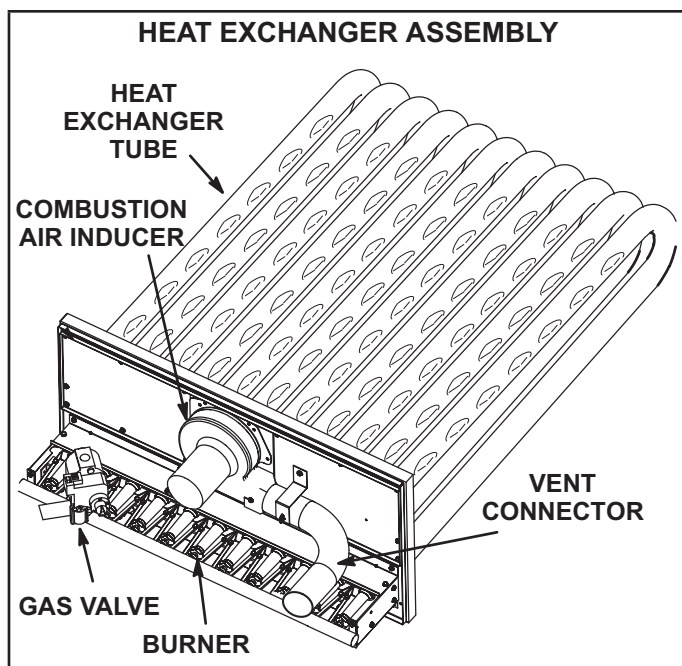

FIGURE 39
- 3 - Remove and retain screws securing combustion air inducer to flue box. Remove and retain two screws from bracket supporting vent connector. See FIGURE 39.